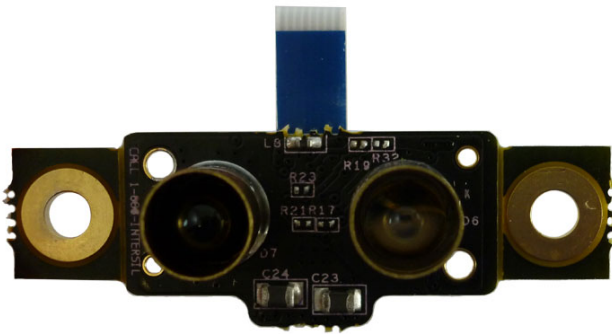
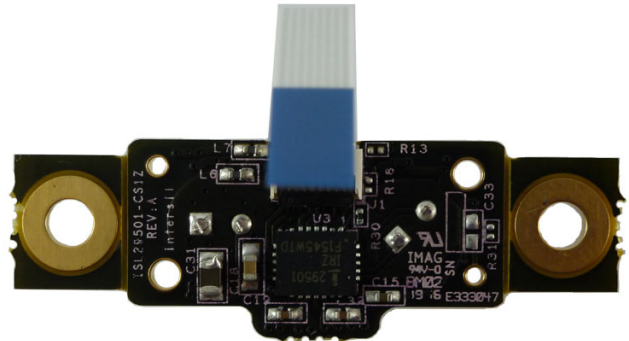

Figure 2. ISL29501-CS1Z Top
Figure 3. ISL29501-CS1Z Bottom.
The ISL29501-CS-EVKIT1Z evaluation kit is shown in Figure 2 and Figure 3. The hardware enable function is controlled by a software switch. A Power-Good (PG) LED indicates that the LDO is regulating properly when not lit.